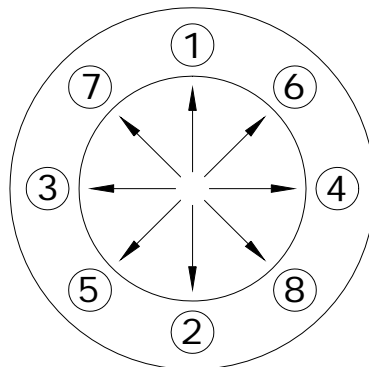

Fig 3.1 Procedure for Fastening Flange Bolts
- ① Remove the flange cap and check whether there are any foreign substances in the body. If you find foreign substances, remove them before starting installation.
- ② As cast steel products are processed with rust preventive oil before shipping to prevent corrosion, remove the rust preventive oil from the pipes before installing them on the line.
- ③ Blow off all foreign substances including welding chips in the pipes before starting installation.
- ④ Install valves in the direction of arrow marked on the body.
- ⑤ When assembling the flange-type valve, you should use a specified gasket, and install it in parallel with the other flange. Also, you are recommended to fasten the bolts in several parts in a balanced manner sequentially in diagonal direction. (See Fig 3.1)